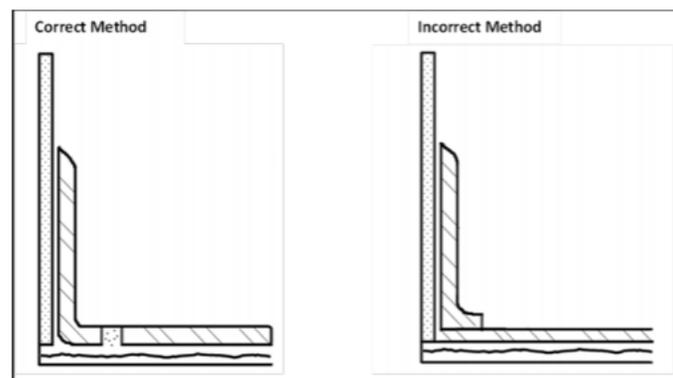

Figure 1
5. Install a covered base at all floor-wall junctions. Select and install covered base according to manufacturer's specifications. Figure 1 shows correct and incorrect positioning of covered base tile relative to flooring surface.